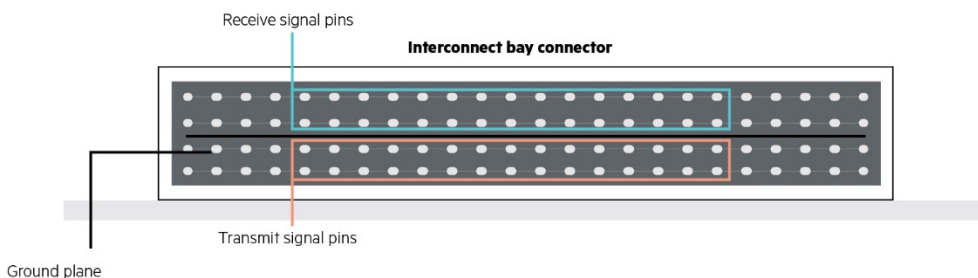

Figure 10. Ground plane to isolate, receive, and transmit signal pins
- Using a ground plane to isolate, receive, and transmit signal pins as shown in Figure 10